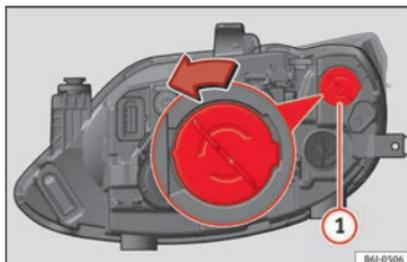
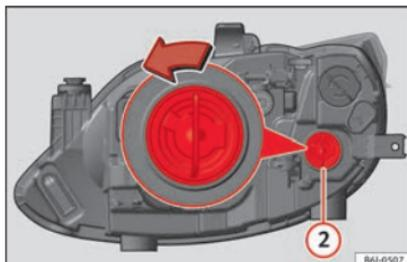

Fig. 89 Single headlight DRL light (day light).
Fig. 90 Single turn signal lamp.
- Turn the bulb holder » **Fig. 89** ① or » **Fig. 90** ② to the left and pull.